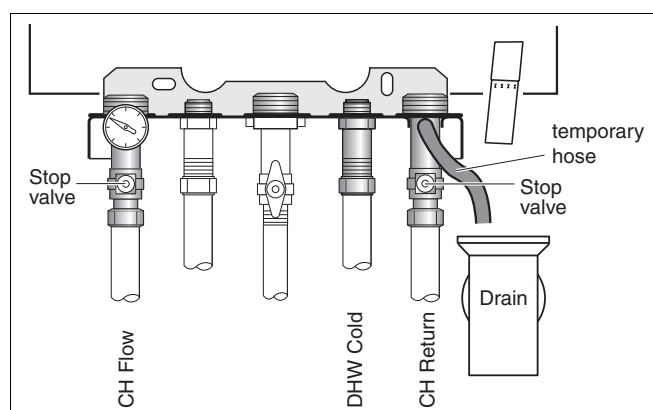

Fig. 9 Draining the system
- Connect temporary hose (fig. 9).